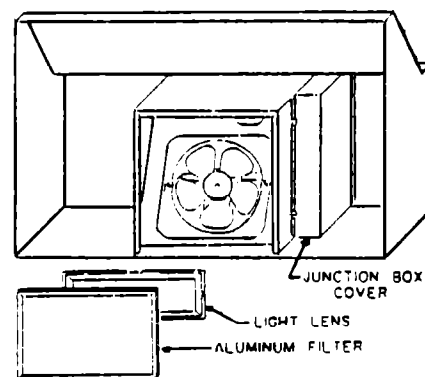

FIG. 3
4. Remove the screws holding the junction box cover (See Figure 3).